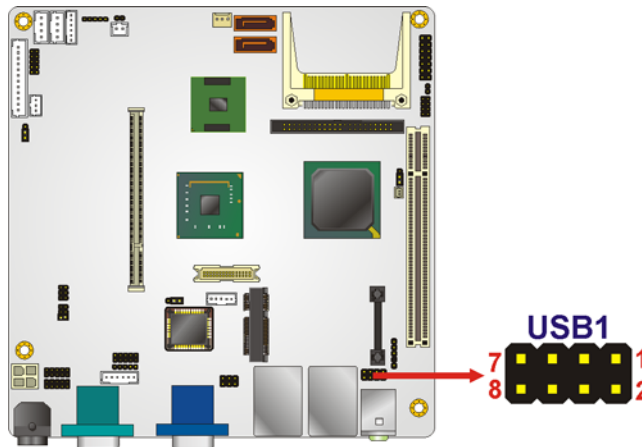

Figure 4-23: USB Connector Pinout Locations
- CN Location:** See **Figure 4-23**